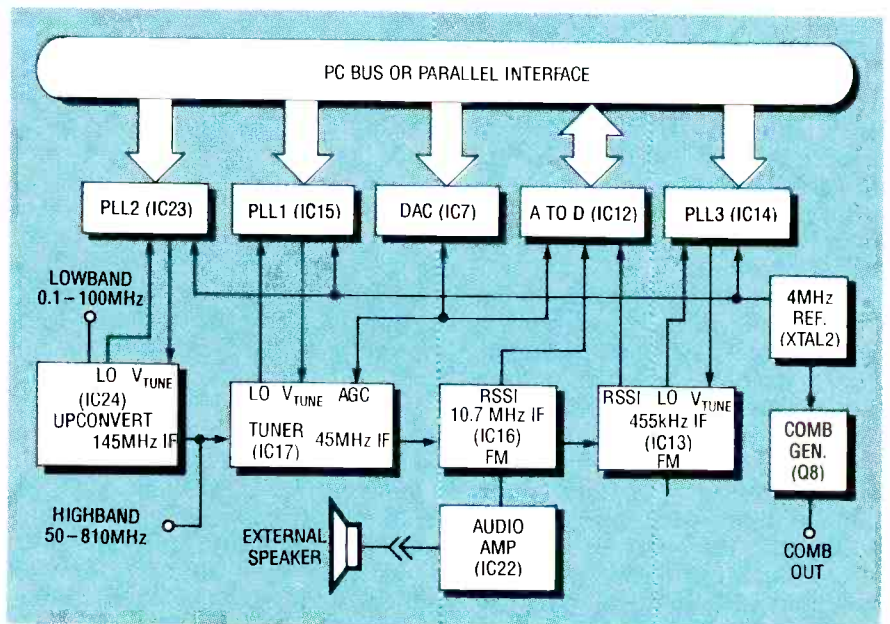
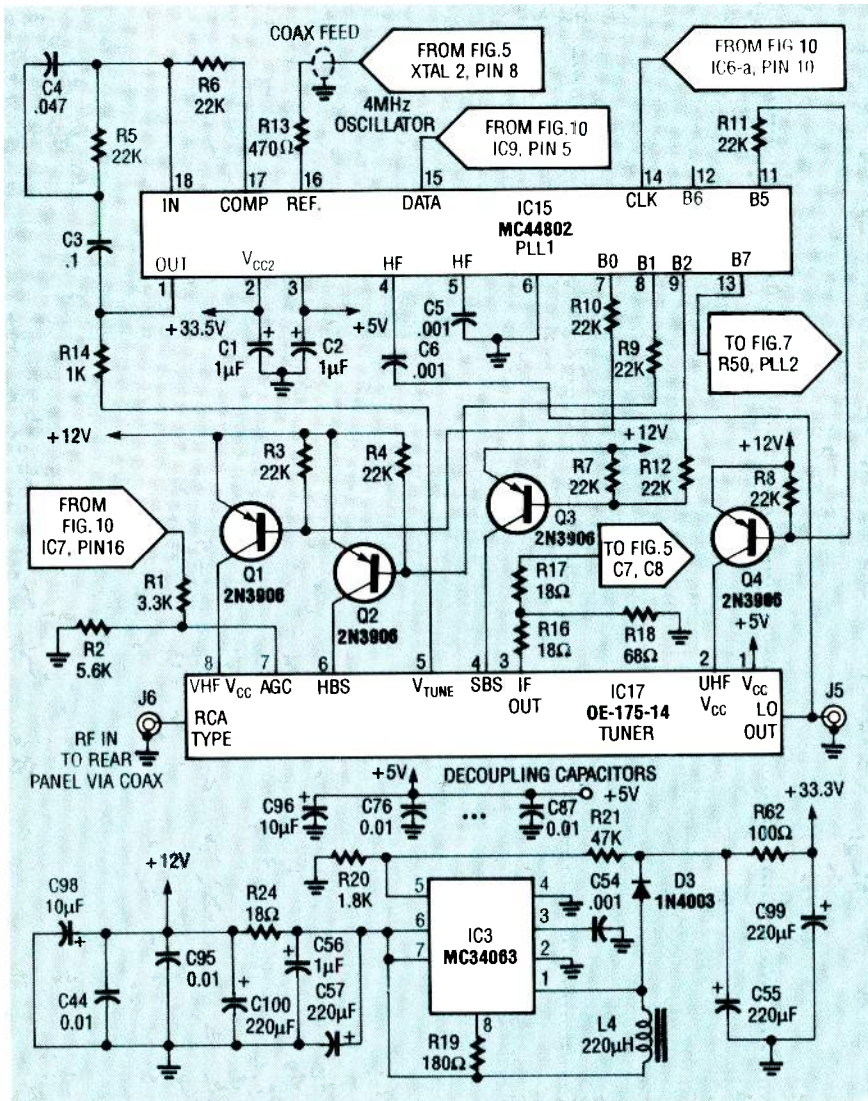

FIG. 3—A BLOCK DIAGRAM OF THE SPECTRUM ANALYZER shows the tuner module, phase-locked loops, receiver blocks, DAC, ADC, and the PC bus connection.
FIG. 4—THE FIRST 45-MHz IF STAGE. The tuner takes highband inputs from 50–810 MHz and converts them to 45 Mhz.
Figure 3 shows the overall block diagram of the spectrum analyzer. At the heart of the unit is a Zenith tuner module (IC17). The tuner takes highband inputs from 50 to 810 MHz and converts them to a 45-MHz IF, which is the first IF stage. After that conversion, the first of two Signetics NE615 receiver IC's (IC16) downconverts the 45-MHz IF to a 10.7-MHz IF, which is the second IF stage. The 10.7-MHz IF is tapped off and sent to another NE615 (IC13) where the 10.7-MHz is downconverted to the standard 455-kHz IF, which is the third IF stage.
Figure 4 shows the circuit of the first 45-MHz IF stage. Of the four local oscillator's (LO's) used, three are phased-locked using Motorola's MC44802 IC (IC14, IC15, and IC23). The LO for the 10.7-MHz IF is crystal-controlled by XTAL1. The PLL's used for the tuner IC also perform band switching, which will be discussed in more detail below. Those PLL's are self contained and have a serial interface. A 4-MHz crystal oscillator (XTAL2, Fig. 5) is used as a common reference for all the PLL's, as indicated in the block diagram (Fig. 3).
As shown in the block diagram (Fig. 3), an 8-bit DAC (IC7) controls the automatic gain control (AGC) input of the tuner. AGC cancels out gain variations and provides signal attenuation. An 8-bit shift register (IC8) is used to provide IC7 with a serial interface to the host PC.
width, follows the mixer. The local oscillator (LO) must be 45 MHz above the input signal to mix to the 45-MHz IF. For the 50 to 810-MHz bandwidth, the tuner VCO must have a range of 95 to 855 MHz. The LO from the tuner is internally buffered and is sent to PLL1 (IC15, Fig. 4) for frequency locking.
The 45-MHz IF is fed through a 6-dB attenuation pad (R16–R18, Fig. 4) and a tuned circuit to the mixer for the 10.7-MHz IF. The attenuation pad is used to reduce signal gain from the tuner and to provide a wide-band termination for the output of the tuner mixer. The tuned circuit, consisting of L1, C8, and C7 (as seen in Fig. 5), acts to match impedance, filter, and to adjust the voltage gain. The tuning of L1 (Fig. 5) affects the overall gain and noise floor of